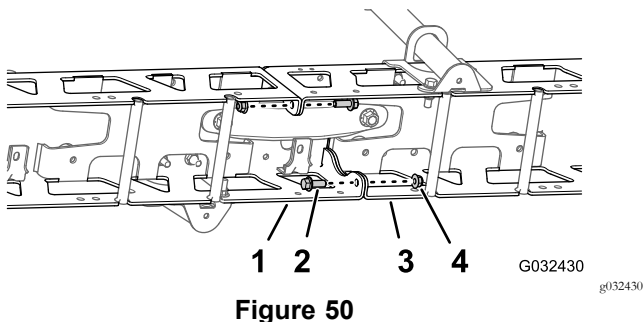

Figure 50
1. Remove the 2 flange head bolts (3/8 x 1 inch) and 2 locknuts (3/8 inch) that secure the vertical flanges of the left and right truss frames (Figure 50).